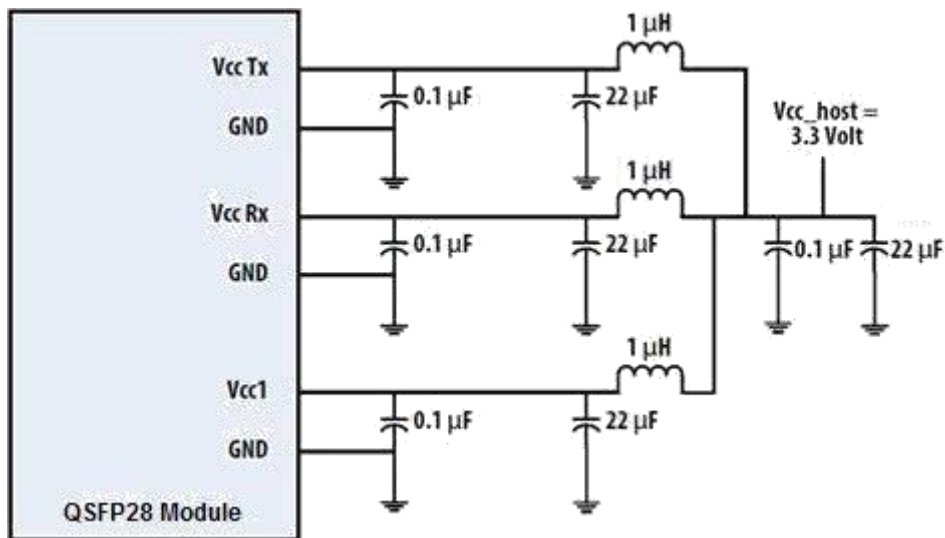

Figure 3. Recommended Power Supply Filter
2、 VccRx, Vcc1 and VccTx are the receiving and transmission power suppliers and shall be applied concurrently. Recommended host board power supply filtering is shown in Figure3 below. VccRx, Vcc1 and VccTx may be internally connected within the module in any combination. The connector pins are each rated for a maximum current of 1000mA.